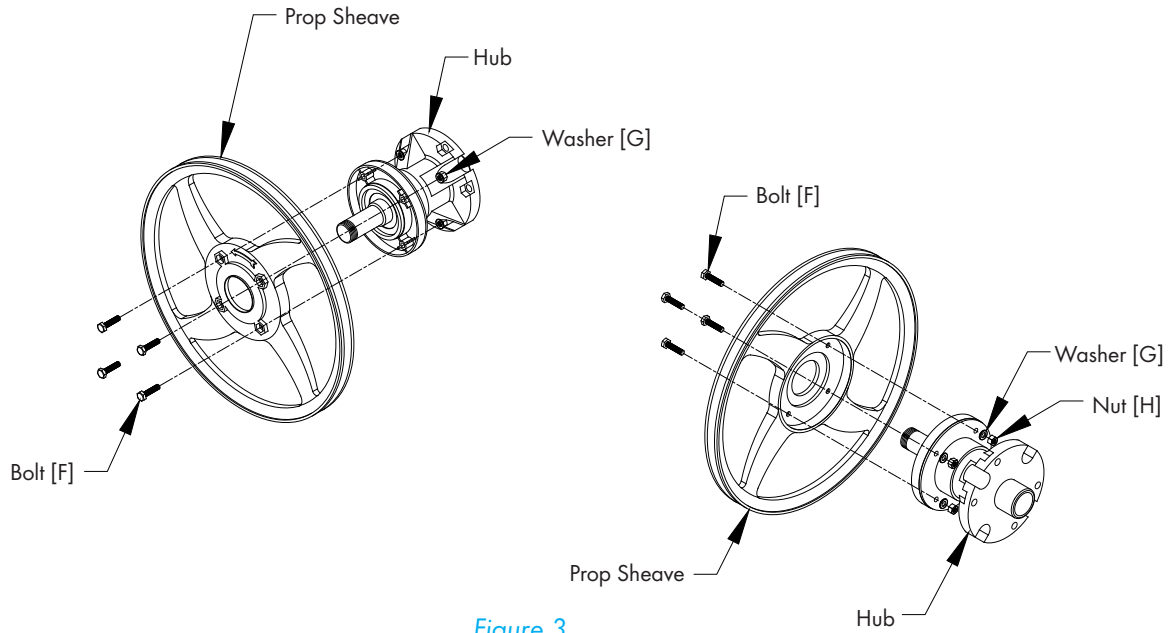

Figure 3
Attach Prop Sheave to Hub using (4) Bolt [F], Washer [G] and Nut [H]. See Figure 3.